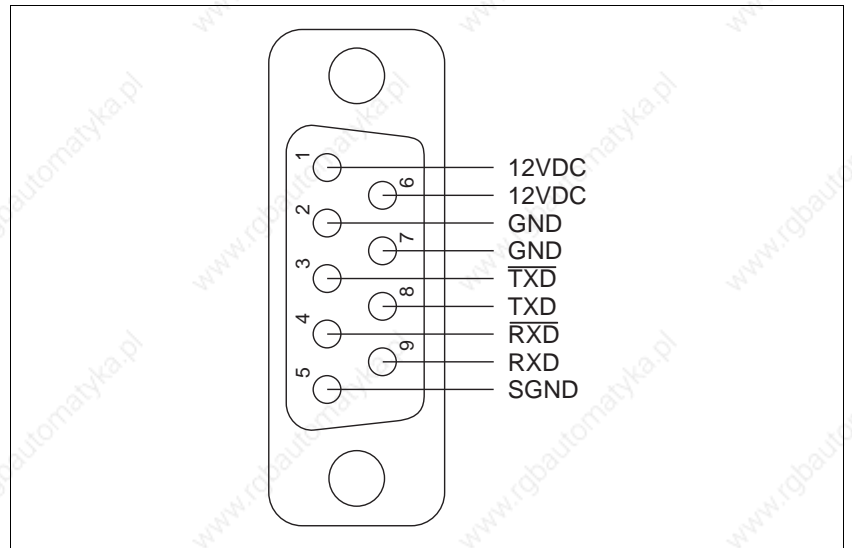

Fig. 2-15 Interface connection - device end
1. Solder the litz wires to the connector as illustrated in fig. 2-15.